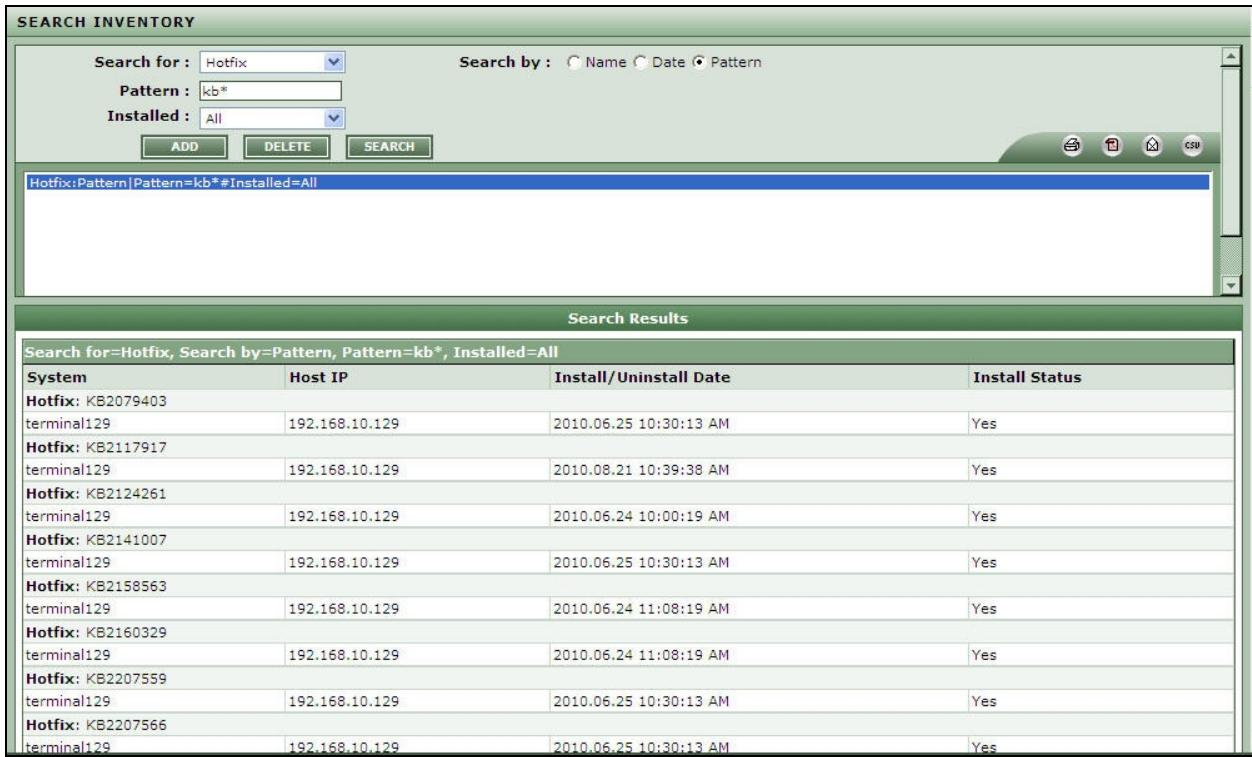

Figure 2.33: Inventory search of a hotfix through pattern wise
- **Pattern:** Select this option, if you want to search for those hotfixes with names that match a specified pattern as depicted in Figure 2.33. Upon selecting this option, you will be required to provide a comma-separated list of **Patterns** to search for. You can either provide the whole/part of the hotfix names in the **Pattern** text box, or use wild card characters to indicate the patterns. For instance, to look for hotfixes with names that begin with the strings 'Q123' and 'C425', your **Pattern** specification can be: **Q123*,C425***. To search for all hotfixes, simply enter ***** in the **Pattern** text box. If you want to view the list of systems on which the hotfixes that match the specified patterns are still available, set the **Installed** flag to **Yes**. This will invoke a **Display Columns** list from which you can select the installation details that you want displayed for the hotfixes. To view the list of systems from which the hotfixes that match the configured patterns have been uninstalled, set the **Installed** flag to **No**. To view the details of all hotfixes that match the configured patterns, regardless of their current availability, set the **Installed** flag to **All**.